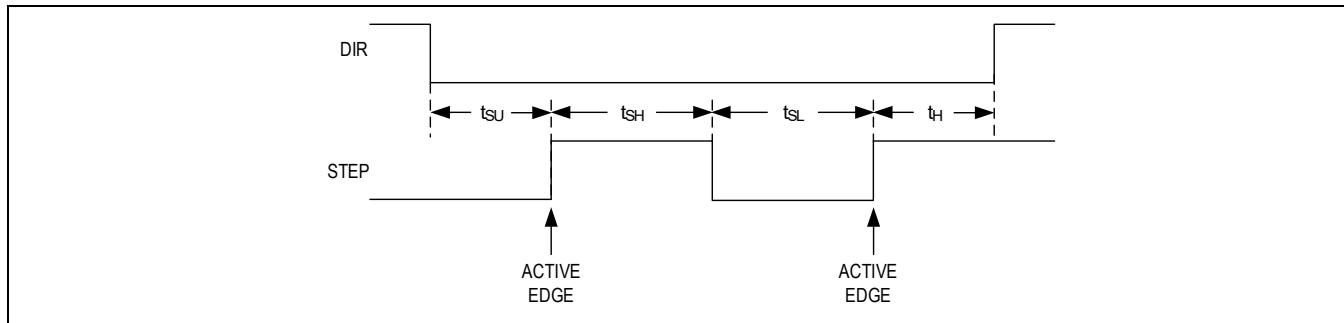

Figure 3. STEP/DIR Signal Timing
*Figure 3* shows the timing parameters for the STEP and DIR signals. STEP and DIR are sampled and synchronized to the system clock. An internal analog filter of approximately 10ns removes glitches on the signals, such as those caused by long PCB traces. If the signal source is far from the chip, and especially if the signals are carried on cables, the signals should be filtered or transmitted differentially. See the Electrical Characteristics table for the specified timing parameters.